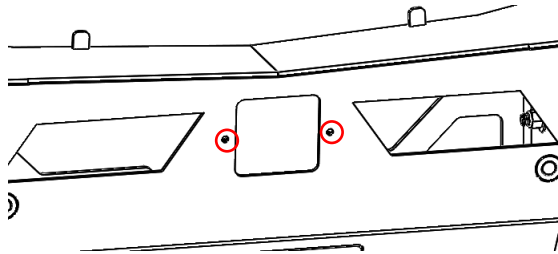

Figure 23: Sensor Window Removal
23. Install sensor in sensor carriage onto front bumper behind sensor window as shown in Figure 23.
NOTE: Adjustment can be made after front bumper installation is complete by removing the front two  $\frac{1}{4}$ "-20 bolts, adjusting the sensor, and reinstalling (Figure 23).
24. If applicable, install parking sensor retainers (sold separately; PN 210560) and wiring harness (See Figure 23). Use arrows as a guide to find pre-cut holes to zip-tie wiring harness onto bumper.